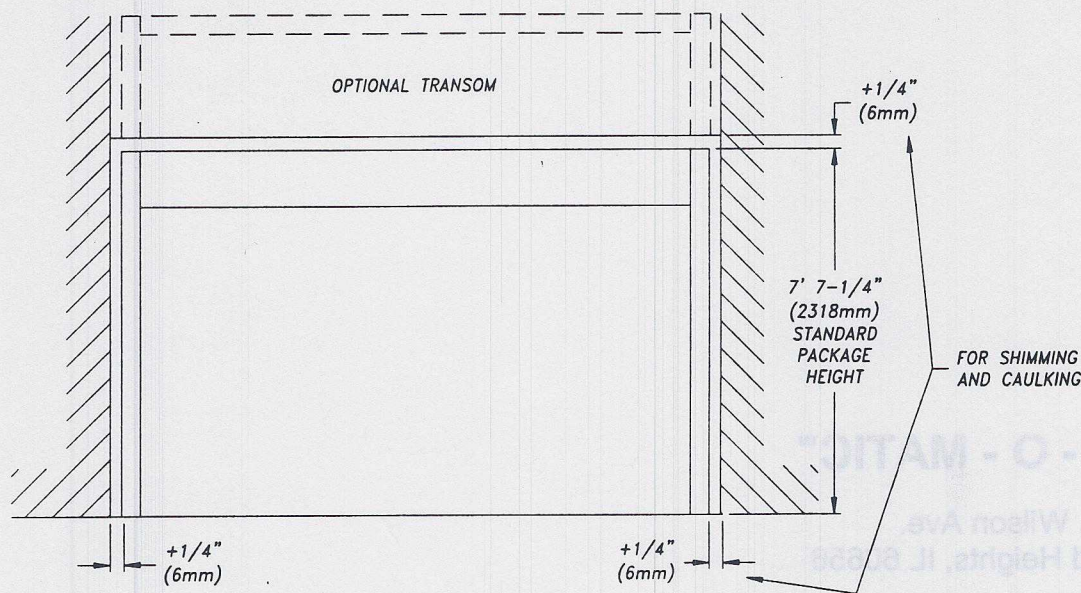

FIGURE 1: Clearance Required at Rough Opening
- A. Check that the opening is the correct size. Correct size is package width plus $\frac{1}{2}$ " (13mm) and package height plus $\frac{1}{4}$ " (6mm), for shimming and caulking (Figure 1).